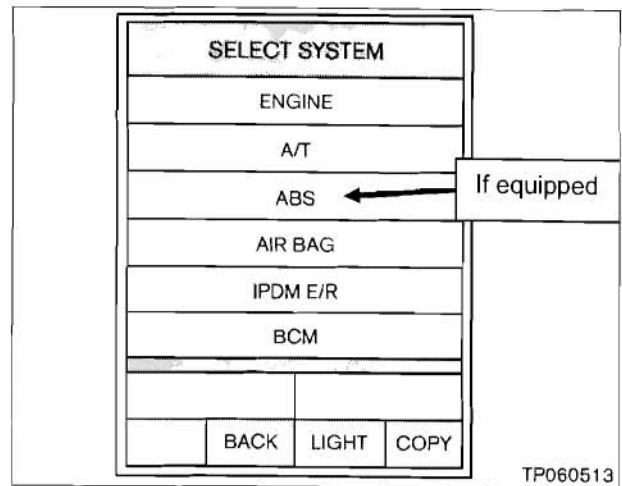

Figure G2
- c. CONSULT will display the systems shown in Figure G2.
For each system displayed in Figure G2: